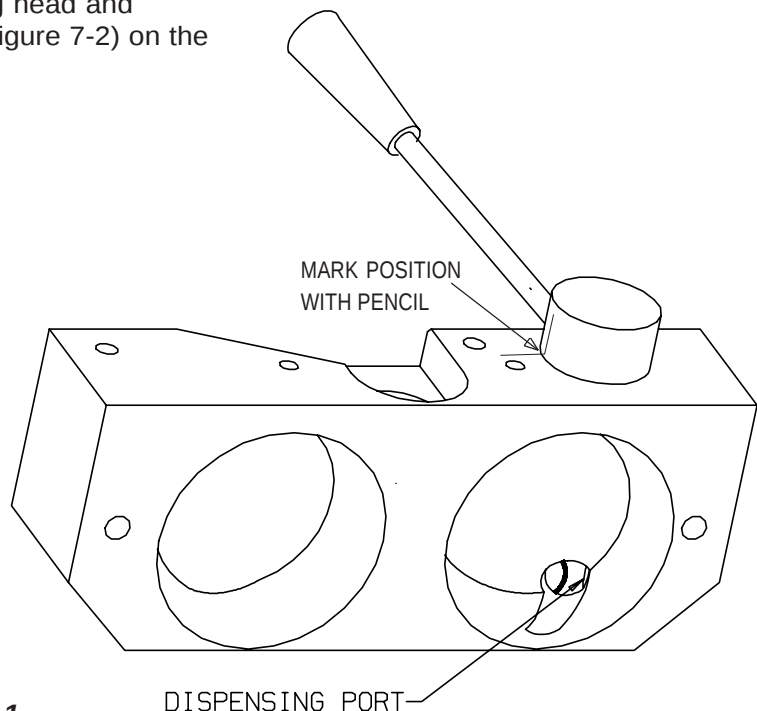
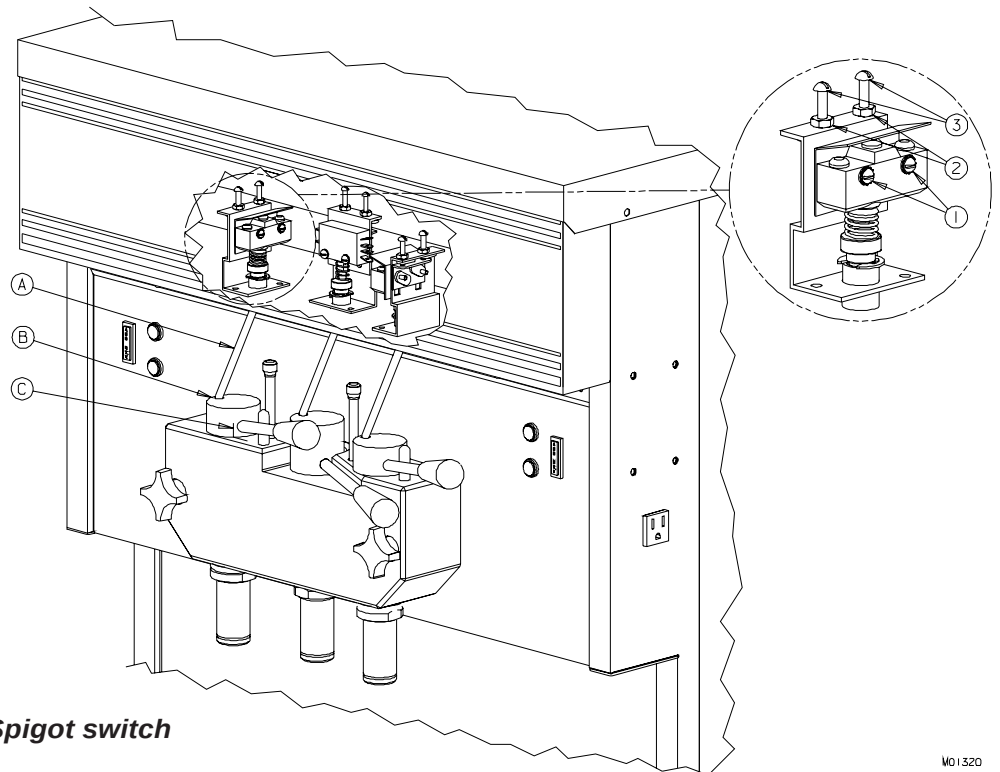

Figure 7-1
Figure 7-2 Spigot switch
2. Mark this position on the dispensing head and spigot with a pencil, as shown in figure 7-1 and figure 7-2, item C.
3. Install the dispensing head and spigot rod (Item A, Figure 7-2) on the freezer.
4. Slowly open the spigot (Item B, Figure 7-2). The micro switch should click at the point the pencil marks line up on the spigot and head assembly.
5. If the switch does not click, a switch adjustment must be made. Remove the cover from the electrical box and slightly loosen the two mounting screws (#1 Figure 7-2). Loosen the locking nuts (2). Adjust screws (3) for proper actuation of the switch.